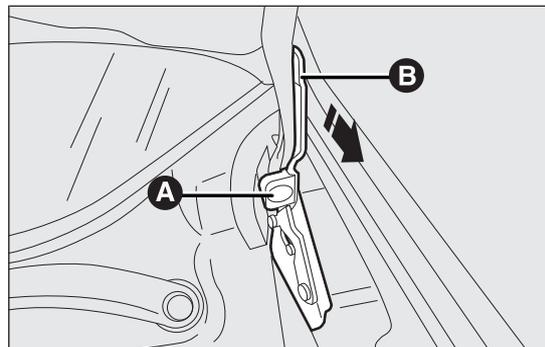

fig. 85
- lift the bonnet with one hand and pull the device A fig. 85 towards yourself while you are lowering the B;